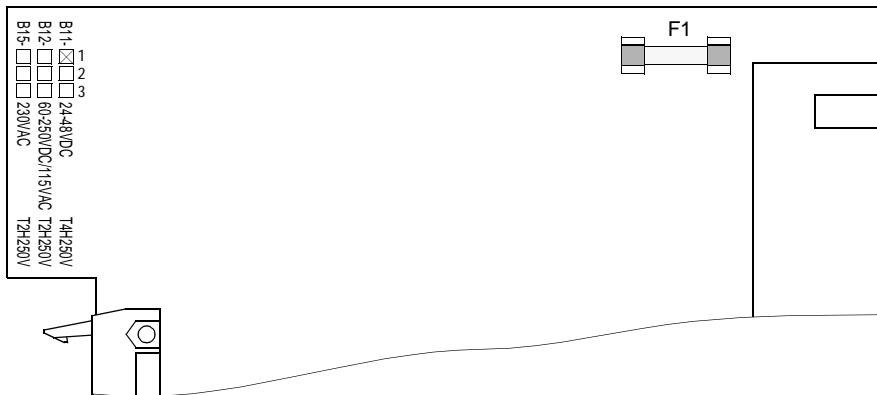

Figure 9-7 Power supply mini-fuse CPU board
- ☐ Has the fuse in the power supply not blown? The location of the fuse is shown in Figure 9-7. If the fuse needs to be replaced, see Subsection 9.5.2.
This data is printed on the module (see Figure 9-7). The type of fuse depends on the auxiliary supply voltage, e.g. for 24 to 48 VDC the fuse type “T4H250V” according to IEC 60127–2 is required (refer to Table 9-1). To maintain the UL–approval, only UL approved fuses may be used (e.g. Messrs. Wickmann. type 181).
- ☐ Remove the defective fuse. Figure 9-7 illustrates the fuse.